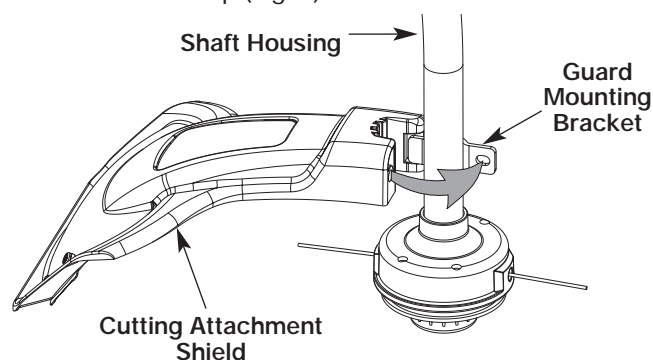

Fig. 3
1. Place the cutting attachment shield onto the shaft housing. Be sure the guard mounting bracket slides into the slot on the edge of the cutting shield. Rotate the shield into place, counterclockwise. The holes in the guard mounting bracket and cutting attachment shield will line up (Fig. 3).